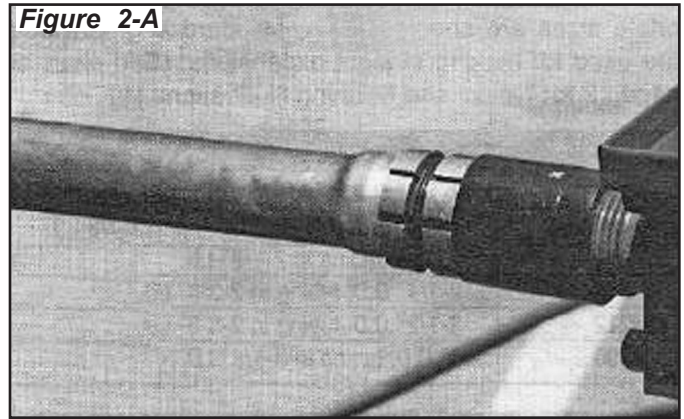

Figure 2-A
4. Depress the valve handle to form the ball on the end of the tubing. Be careful not to distort the end of the tubing. (See figure 2-A)